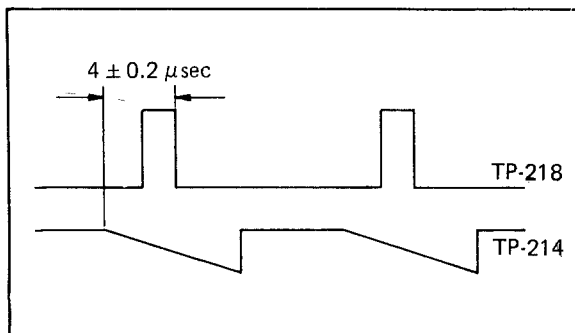

Fig. 6-31 AFC Detector comparison signal
- Adjust R311, so that the timing of TP-214 and TP-218 is $4 \pm 0.2 \mu\text{sec}$ from the trigger point as shown in Fig. 6-31.